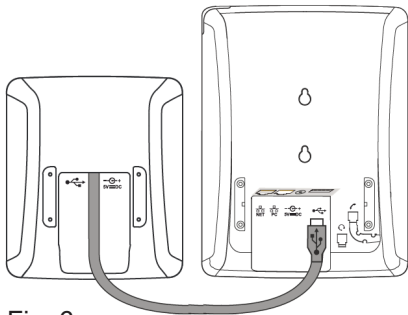
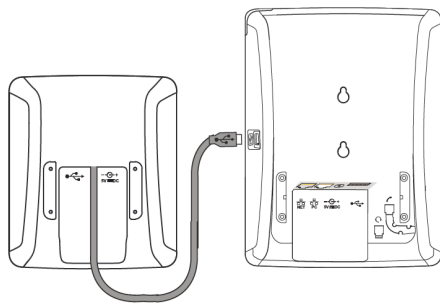

Fig. 6
Fig. 7
- Insert the USB plug attached to the cable of the VTech ET6 into the USB port on the VTech phone. If the phone has two USB ports, either one of them can be used (Fig. 6 and Fig. 7).
4. Connect the first expansion module to the phone, as shown in Fig. 6 or 7.